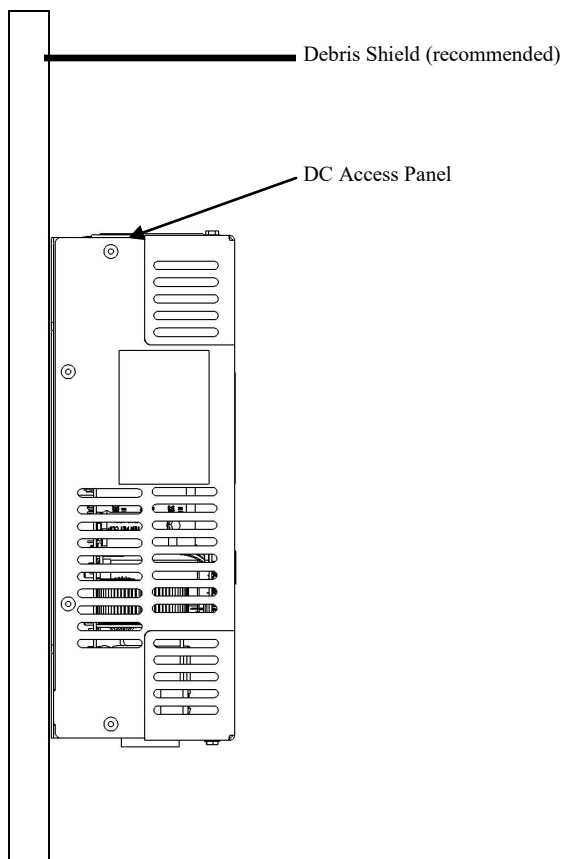

Figure 6 Vertical Mounting Configuration
4. If mounting vertically, mount the PD1200 series inverter so that the DC wiring compartment is facing up (see Figure 6). This will ensure that the display will be oriented correctly. It is best to ensure that PD1200 series inverter is placed in an area that keeps dust & debris from entering the fan area. Debris may cause unexpected performance issues in your inverter.
- 6. Strip AC wiring. See Figure 6 for recommended wire size and strip lengths.